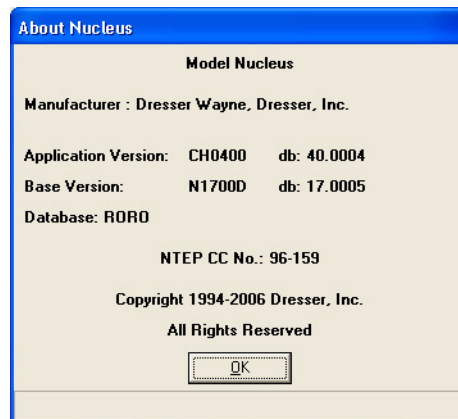

Figure 7-2 About Nucleus Window
1. From the Programming Access window select **System > About**. The system displays the “About Nucleus” window which details the Nucleus application version number, the Nucleus base version number, and the Nucleus database version information. See Figure 7-2.